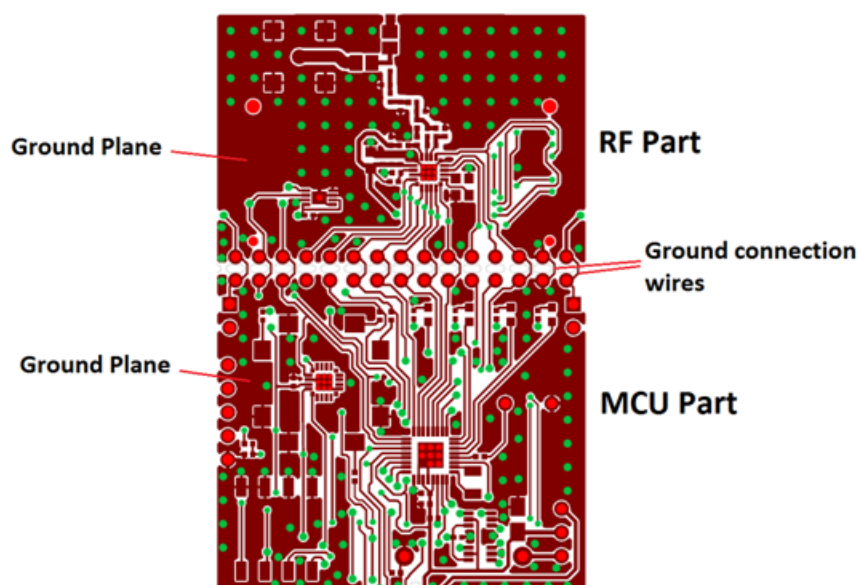
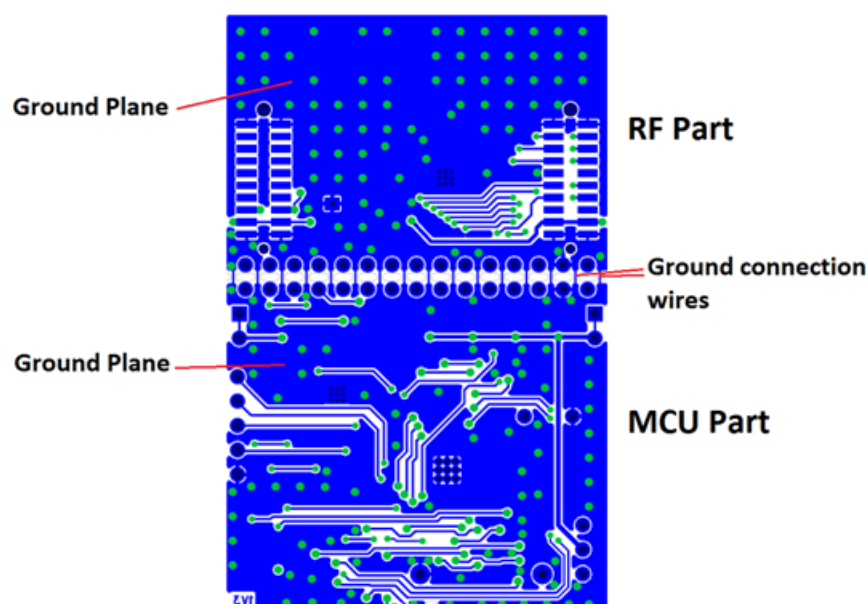

Figure 8. Ground Connection between the RF and MCU Parts—Top Layer
Figure 9. Ground Connection between the RF and MCU Parts—Bottom Layer
- The Si4455-LED-xxx (Si4455CLEd-xxx) development boards (RFStick solutions) can be optionally broken in two along the connector so that the RF Part can be used as a pico board. Due to this option, the developer must ensure that the ground planes of the RF and MCU sections are connected well as possible to each other. Figure 8 and Figure 9 show this solution for the Si4455-LED-434 (Si4455CLEd-434) development board. The top and bottom layers are shown, respectively. As shown in Figure 8 and Figure 9, there are as many connection wires as possible between the two parts to minimize the parasitic inductance in the grounding between the two stages.